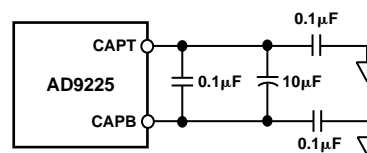

Figure 17. Recommended CAPT/CAPB Decoupling Network
The actual reference voltages used by the internal circuitry of the AD9225 appears on the CAPT and CAPB pins. For proper operation when using the internal or an external reference, it is necessary to add a capacitor network to decouple these pins. Figure 17 shows the recommended decoupling network. This capacitive network performs the following three functions: (1) along with the reference amplifier, A2, it provides a low source impedance over a large frequency range to drive the A/D internal circuitry, (2) it provides the necessary compensation for A2, and (3) it bandlimits the noise contribution from the reference. The turn-on time of the reference voltage appearing between CAPT and CAPB is approximately 15 ms and should be evaluated in any power-down mode of operation.